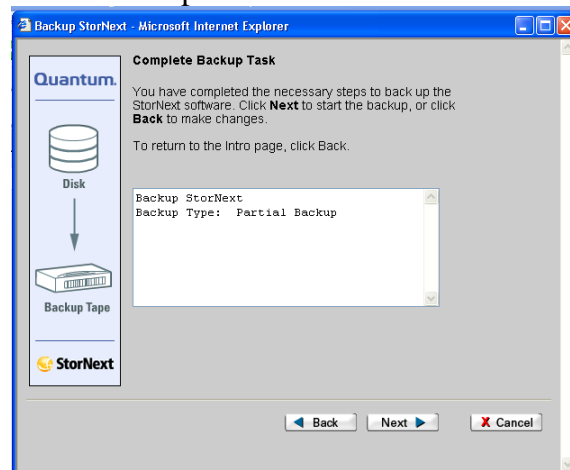

Figure 14.6-3. Complete Backup Screen
- 4 Select the type of backup you want run, Full or Partial, then click Next. The **Complete Backup Task** screen appears (Figure 14.6-3).